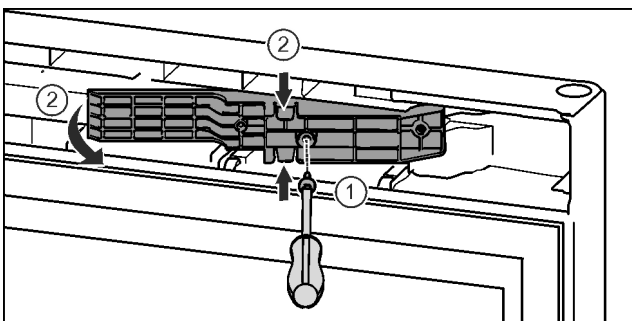

Fig. 14*
- ▶ Loosen the screws with the T15 screwdriver.* Fig. 14 (1)
- ▶ Pull out the adapter.* Fig. 14 (2)